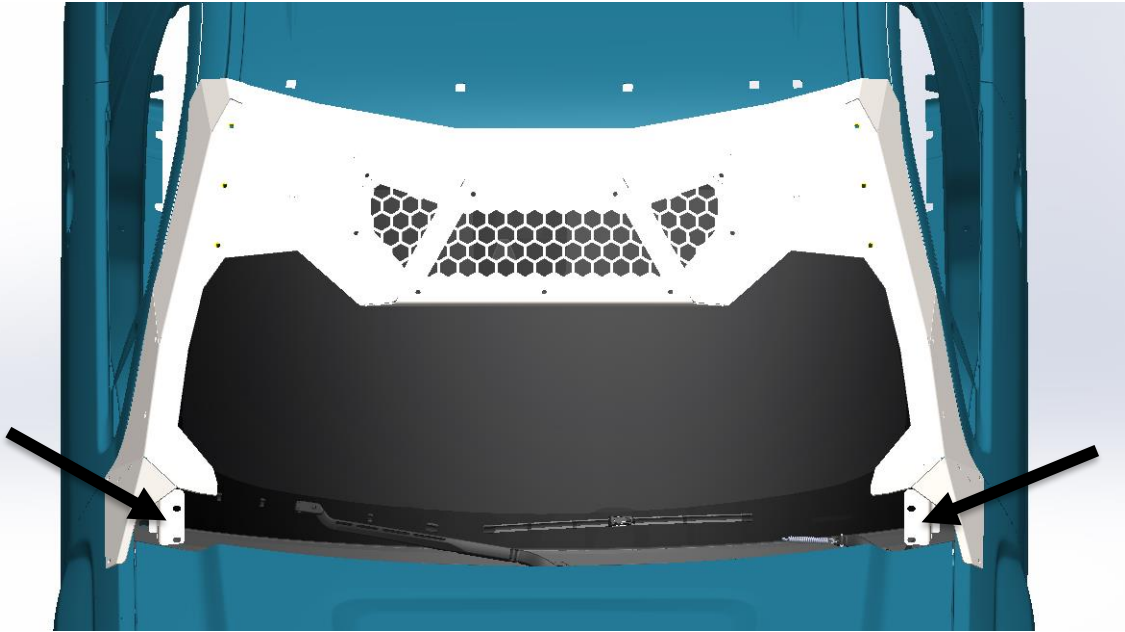

Fig 15
- p. With the help of a friend, lift the ViCowl cowl up over the hood and slowly lower it down on the mounting surface as shown in **Fig 15** with the arrows.